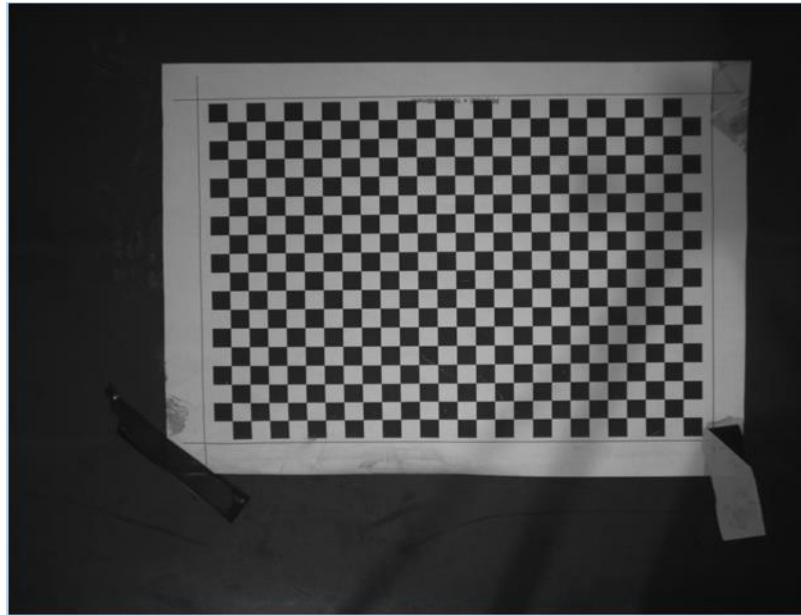

Figure 5-18 Chessboard calibration board
- Step6. Place the chessboard calibration board on the conveyor belt (as shown in Figure 5-18). When placing it, try to make the long side of the chessboard calibration board parallel to the edge of the conveyor belt. The plane of the calibration plate is at the same height as the upper surface of work object.